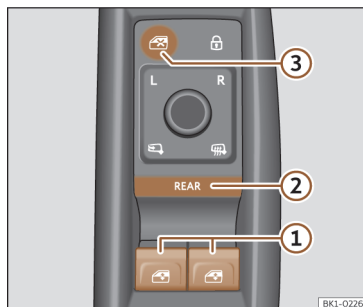

Fig. 80 Detail of the driver's door: window controls.
- ① Electric window operation buttons.
- ② **REAR** Button for activating the electric window operation and comfort opening and closing.
- ③ Button to deactivate the electric window operation buttons on the rear doors. By default, the electric windows on the front doors can be operated with the buttons >>> **Fig. 80 ①**.
REAR Briefly press button >>> **Fig. 80 ②** to activate the operation of the rear door electric windows. When the operation of the rear door electric windows is activated, the button's light is on.
Press the button >>> **Fig. 80 ③** to deactivate the electric window buttons located on the rear doors. When these buttons are deactivated the button light turns out.